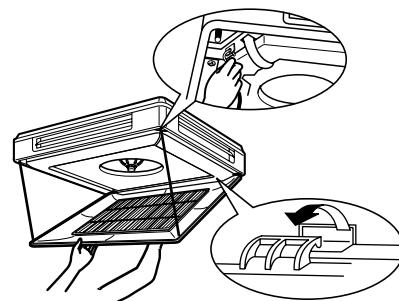

Fig. 4
- 2 With the suction grille in the open position, remove the suction grille by pushing it up as shown. **(Refer to Fig. 4)**